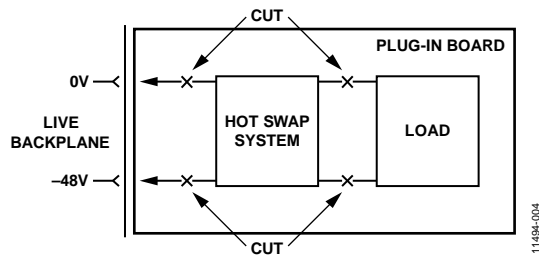

Figure 3. Removing Existing Hot Swap Circuitry from the System
1. Locate the existing hot swap device and its accompanying components, and disconnect this portion of the system by cutting the relevant tracks on the board. Alternatively, you can desolder and remove the relevant components, as shown in Figure 3.